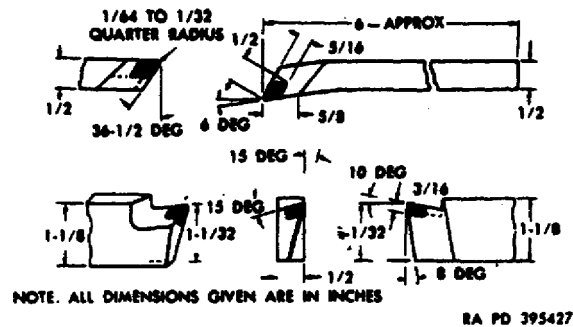

Figure 22. Cutting tool.
(1) Figure 22 shows the sharpening dimensions of the resurfacing tool to be used in a lathe. After grinding, hone the tool with a fine hard stone to insure a smooth cut during the lathe turning operation.